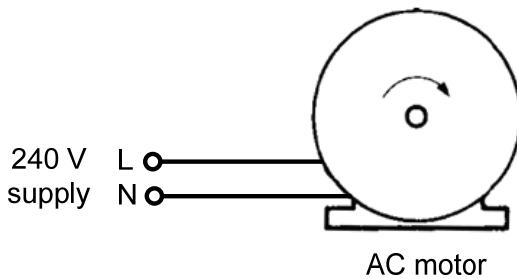

Figure 1.2
- (b) A single-phase AC motor is connected to a supply with line voltage 240 V as shown in Figure 1.2. The motor produces an output of 3 hp. Measurement on the system showed that the line current is 12 A and the active power absorbed by the motor is 2.5 kW. Calculate the following (1hp = 0.746 kW):